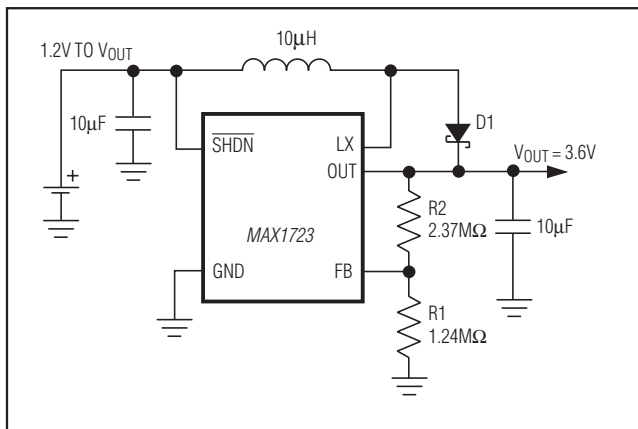
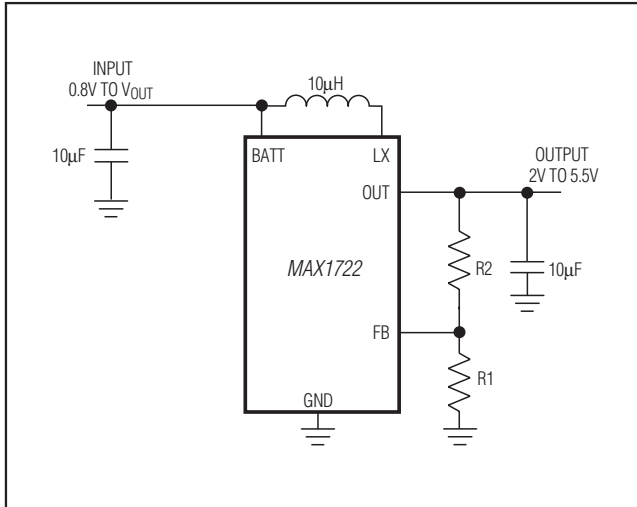
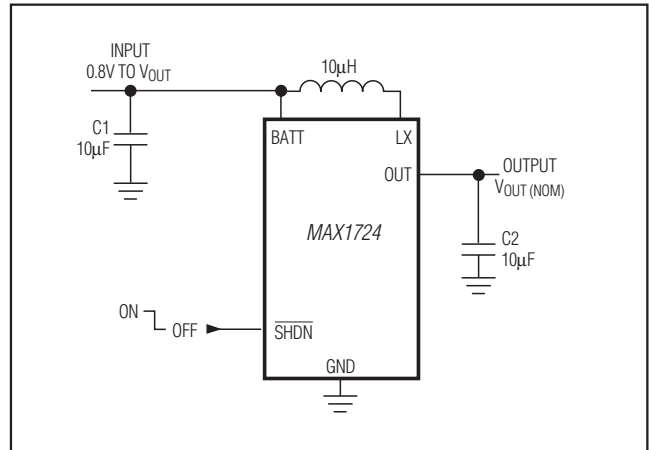

Figure 3. MAX1723 Single-Cell Operation
Figure 7. Adjustable Output Circuit
Figure 8. MAX1724 Standard Application Circuit
**Note 2:** Guaranteed with the addition of a Schottky MBR0520L external diode between LX and OUT when using the MAX1723 with only one cell, and assumes a 0.3V voltage drop across the Schottky diode (see Figure 3).
(Figure 3 (MAX1723), Figure 7 (MAX1722), Figure 8 (MAX1724), VBATT = VIN = 1.5V, L = 10 $\mu$ H, CIN = 10 $\mu$ F, COUT = 10 $\mu$ F, TA = +25°C, unless otherwise noted.)
(Figure 3 (MAX1723), Figure 7 (MAX1722), Figure 8 (MAX1724), VBATT = VIN = 1.5V, L = 10µH, CIN = 10µF, COUT = 10µF, TA = +25°C, unless otherwise noted.)
lacks a BATT pin; therefore, this circuit is powered through the OUT pin. Adding a Schottky diode in parallel with the P-channel synchronous rectifier allows for startup voltages as low as 1.2V for the MAX1723 (Figure 3). The external Schottky diode is not needed for input voltages greater than 1.8V. Once started, the output maintains the load as the battery voltage decreases below the startup voltage.
The output voltage can be adjusted from 2V to 5.5V using external resistors R1 and R2 (Figure 7). Since FB leakage is 20nA (max), select feedback resistor R1 in the 100kΩ to 1MΩ range. Calculate R2 as follows: